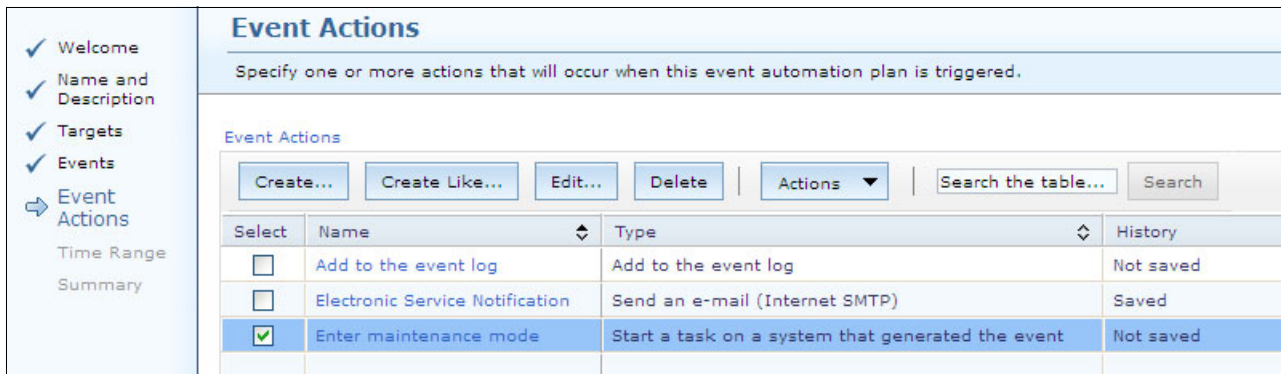

Figure 11-74 Create Event Automation Plan Wizard Event Actions window
- Select the newly created **Enter maintenance mode** event action, as shown in Figure 11-74. Click **Next**.